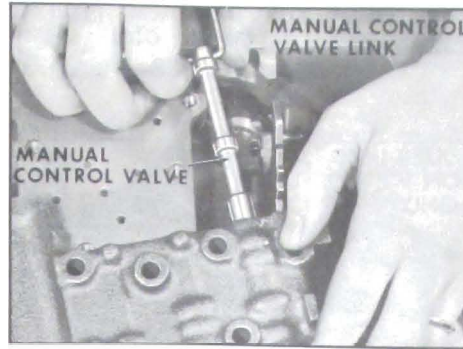

Figure 5-336
3. Install manual control valve and link into valve body assembly. See Figure 5-336.